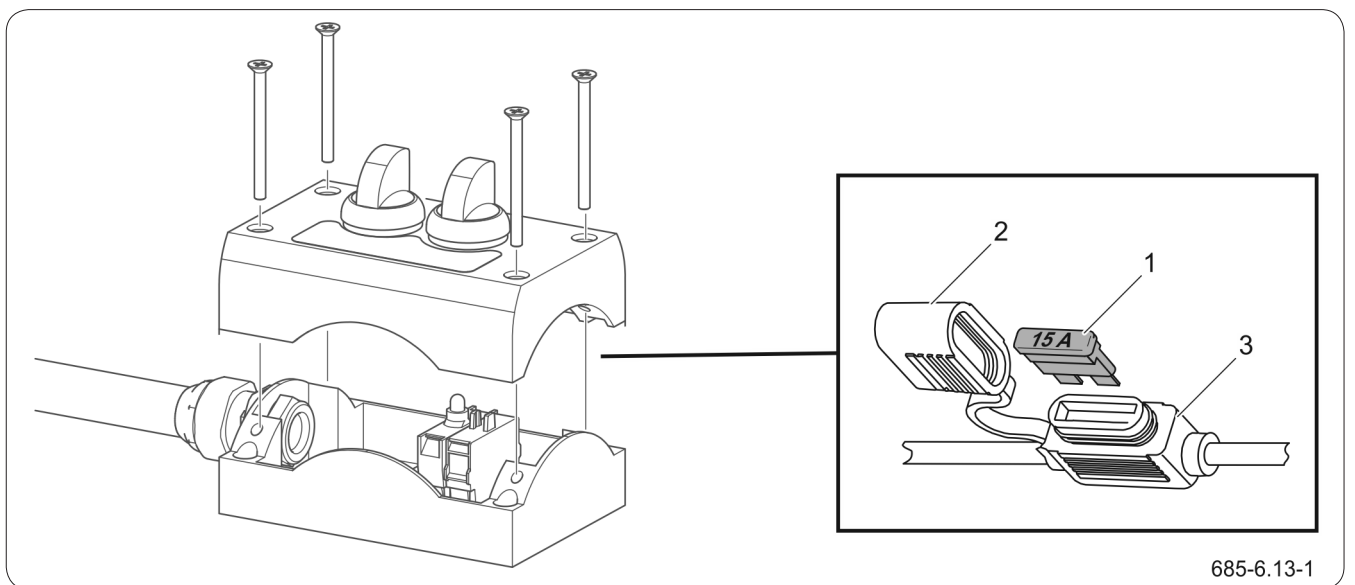

Figure 6.4 Control panel fuse replacement
(1) UNIVAL 15A fuse (2) cover (3) housing
The electrical installation of the machine control (Figure 6.4) is equipped with a (1) UNIVAL 15A fuse located inside the control panel housing. To replace the control panel fuse, open the housing, remove the cover (2) and pull the fuse (1) out of the housing (3).